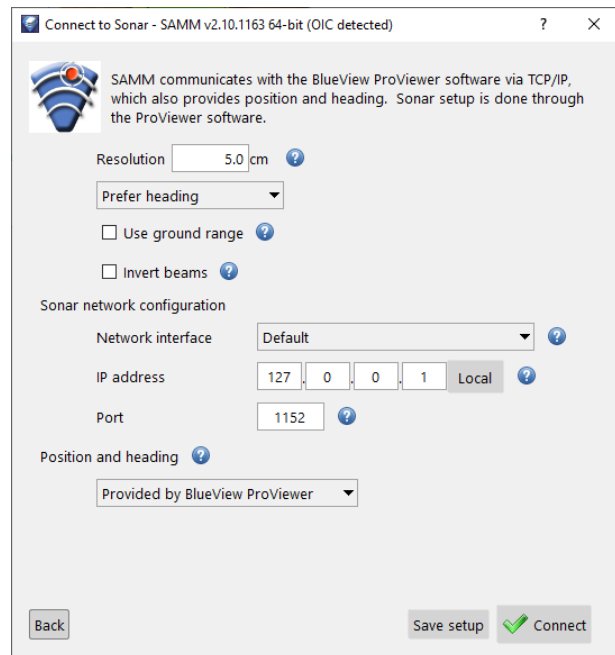

Figure 48. BlueView Interfacing
9. In the BlueView interface window (Figure 48), set processing parameters as necessary.